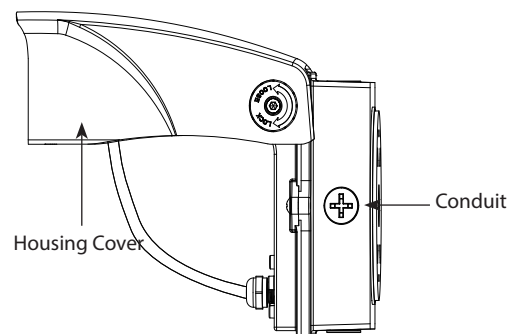
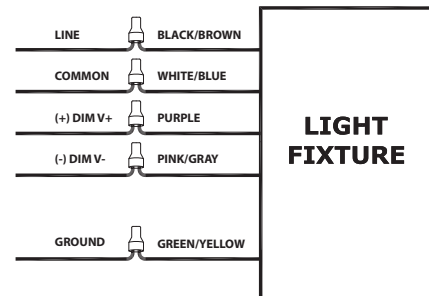

Fig: 2
Fig: 13
2. Open Housing Cover and rotate to a 90° angle as shown in Fig. 2.
7. Wire the Housing leads to supply wires using UL listed wire connectors according to NEC and local codes (Fig. 13). Push all wires into the housing.
10. For Conduit wiring, remove Side Conduit Cap using a screwdriver as shown in Fig. 2. Feed supply wires through conduit opening with a suitable connector. Wire the Housing leads to supply wires using UL listed wire connectors according to NEC and local codes (Fig. 13). Push all wires into the housing. Follow mounting instructions.
Universal voltage driver permits operation at 120V thru 277V, 50 or 60 Hz. For 0-10 Dimming, follow the wiring directions as shown in **Fig. 13**.